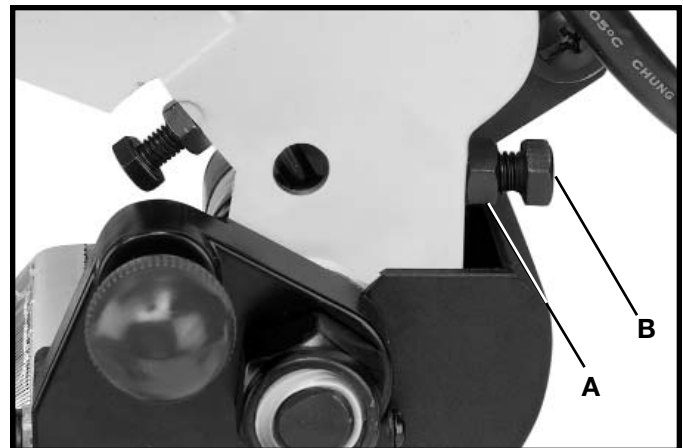

Fig. 27
2. Loosen lockknob (A) Fig. 27 and turn screw (B) clockwise to increase or counterclockwise to decrease the spring tension. After the spring tension has been adjusted, tighten lockknob (A).